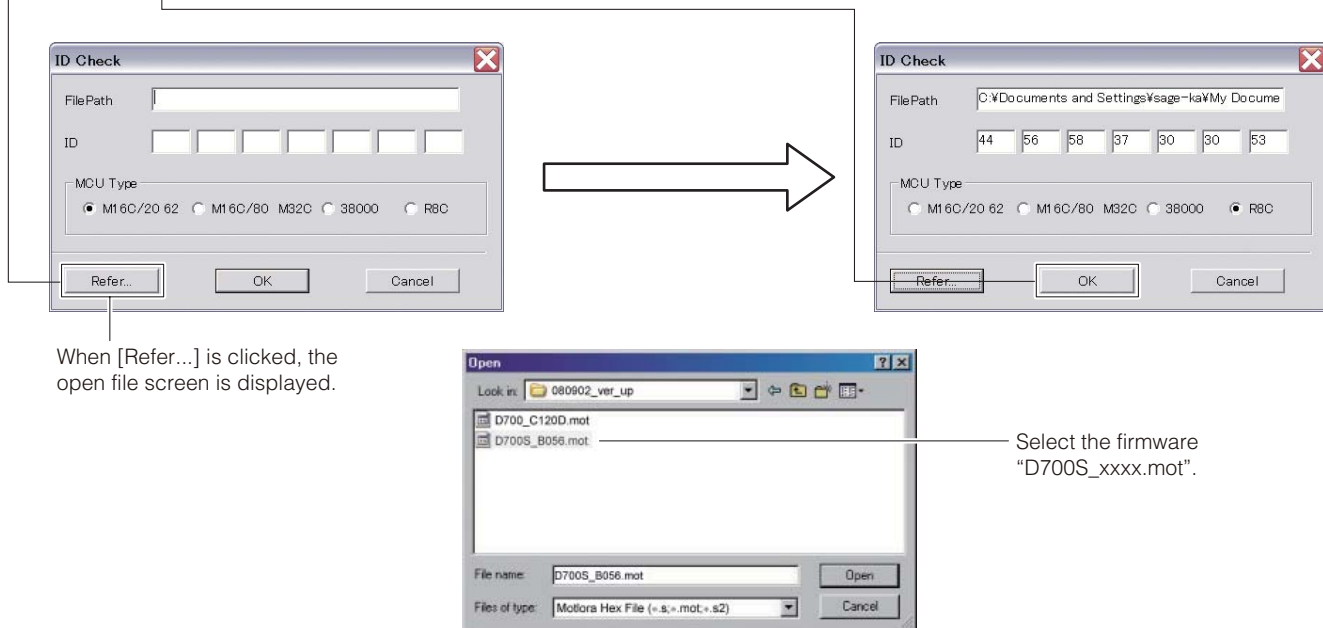

Fig. 3
8. "ID Check" is displayed. (Fig. 3)
Click [Refer...], and select "D700S_xxxx.mot". (Fig. 3)
The ID code and MCU type are loaded when the file is selected. (Fig. 3)
9. Click [OK]. (Fig. 3)